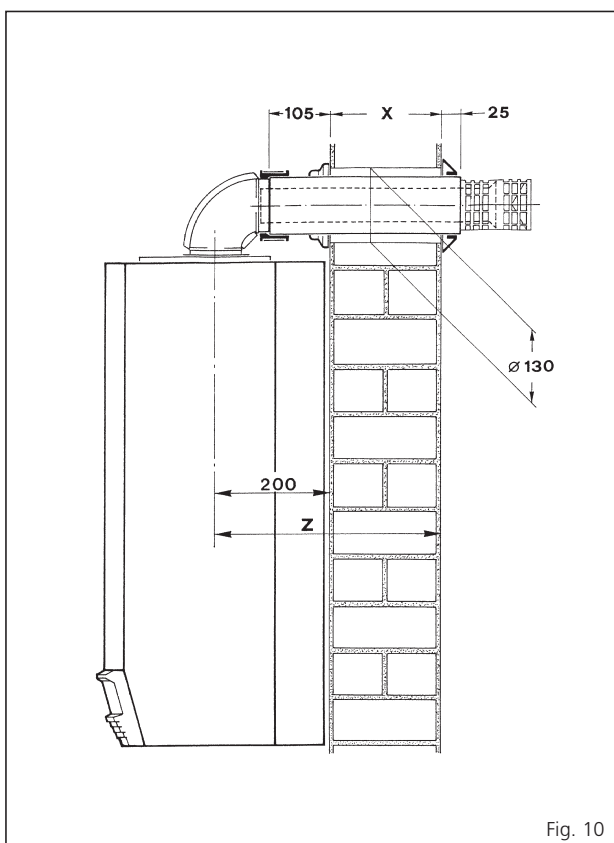

Fig. 10
- Determine whether an extension duct is required with reference to the **Z** dimension shown in figs. 10 - 11 -
#### Rear flue outlet (Only - fig. 10)